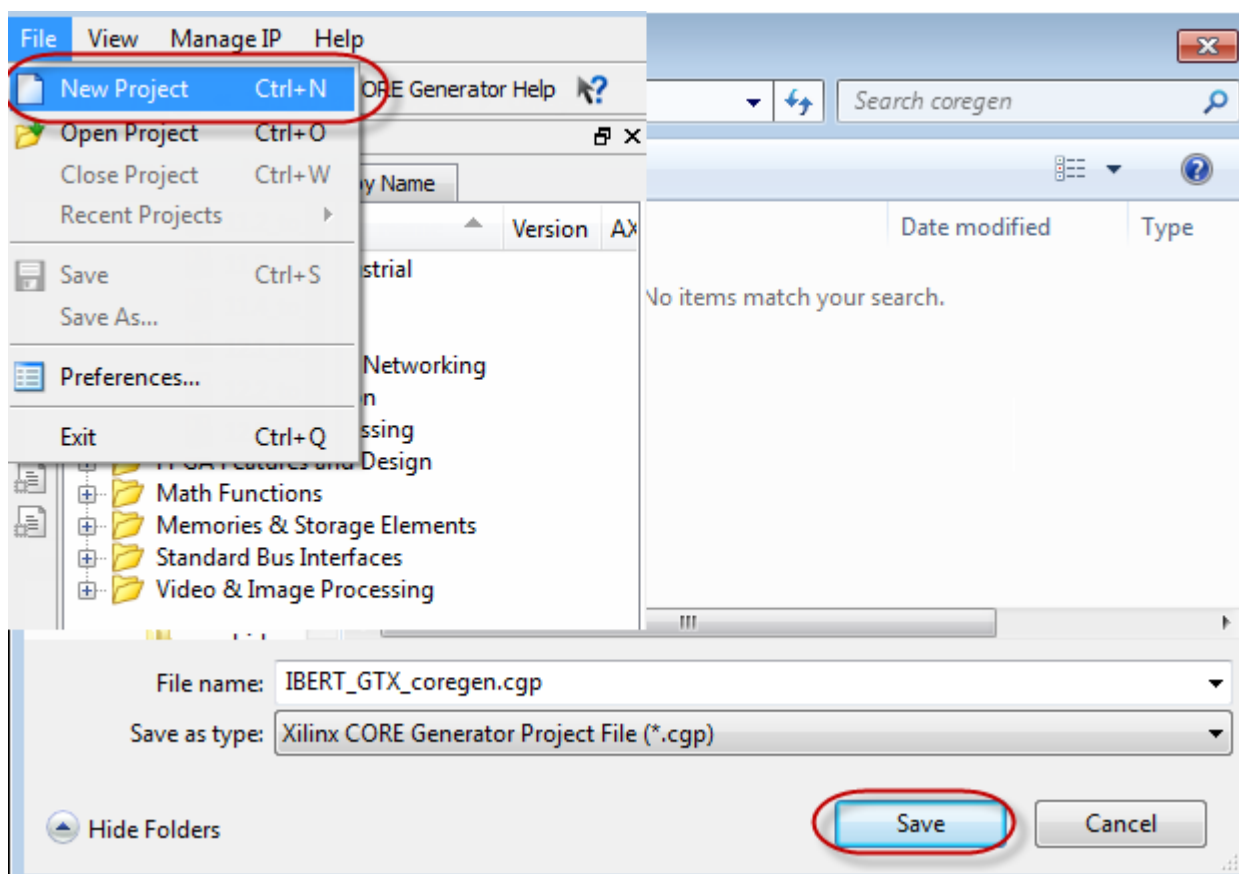

Figure 3: Creating and Saving a Project in the CORE Generator Tool
2. Click **File > New Project** and save the project as **IBERT_GTX_coregen**, as shown in Figure 3.